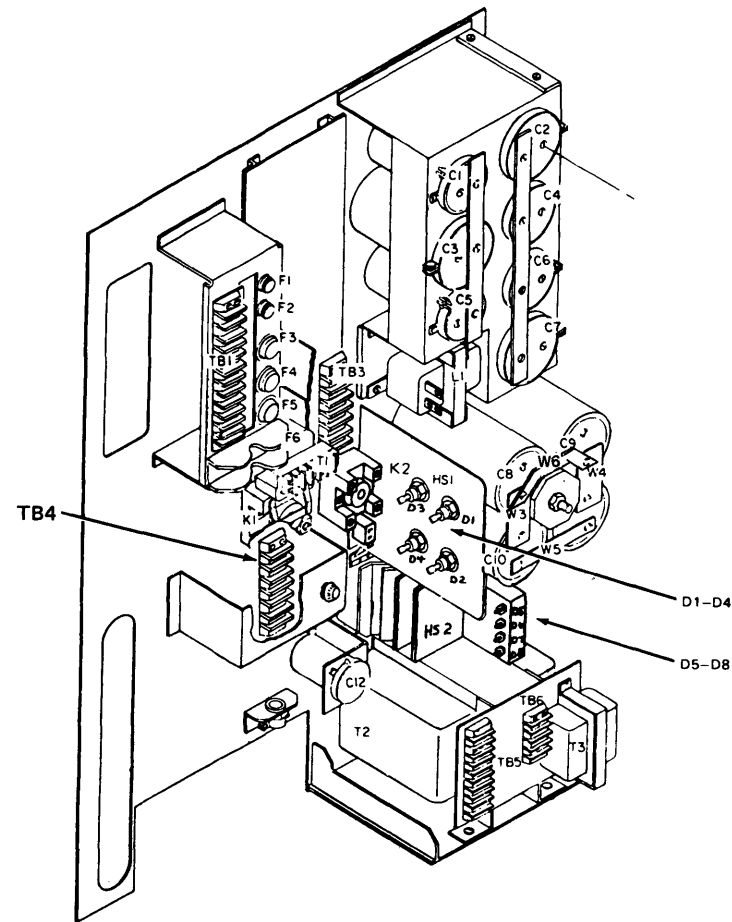

Figure PA641-1. 01G Transformer and Diode Locations
2. Disconnect the transformer winding leads from the diodes connected to the voltage in question. See PA410–PA430 AC Power to identify transformer windings and Figure PA641-1 for the location of the diodes.